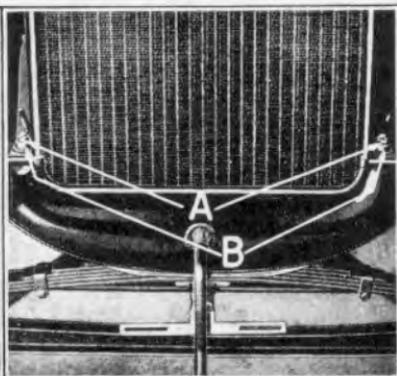
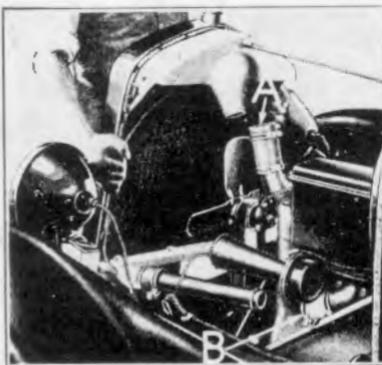

Fig. 526
Fig. 529
- 1128 Withdraw cotter pins and run off radiator stud nuts (see "A" Fig. 526) and lift off upper thimbles "B".
- 1131 Lift radiator off of studs—radiator inlet connection together with outlet pipe can then be withdrawn from hose connections (see "A" and "B" Fig. 529) and radiator lifted from car.
- 1148 Insert cylinder head outlet hose over end of radiator inlet connection (see "A" Fig. 529). Insert radiator outlet pipe into outlet hose connection "B" making sure that the lower hose connection is underneath lighting wire loom. Position radiator over ends of studs, seating radiator firmly on lower thimbles. Place upper thimbles (see "B" Fig. 526) over ends of studs. Run down radiator stud nuts "A" sufficiently far to permit locking them with cotter keys. Insert radiator stay rod into bracket on dash and run down and tighten lockwasher and nut (see Fig. 528). Tighten hose clip screws on top and side hose connections.